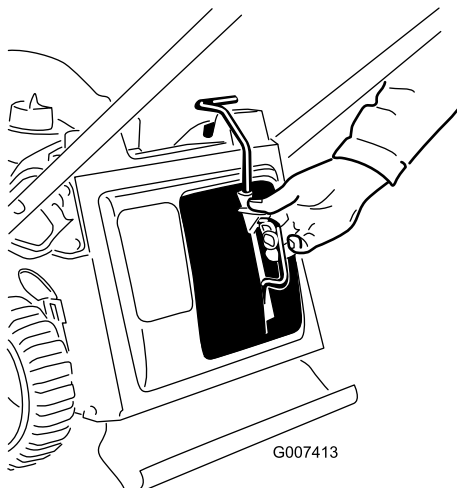

Figure 11
2. Squeeze the button on the lever with your thumb, and fully insert the mulch plug into the opening (Figure 11).